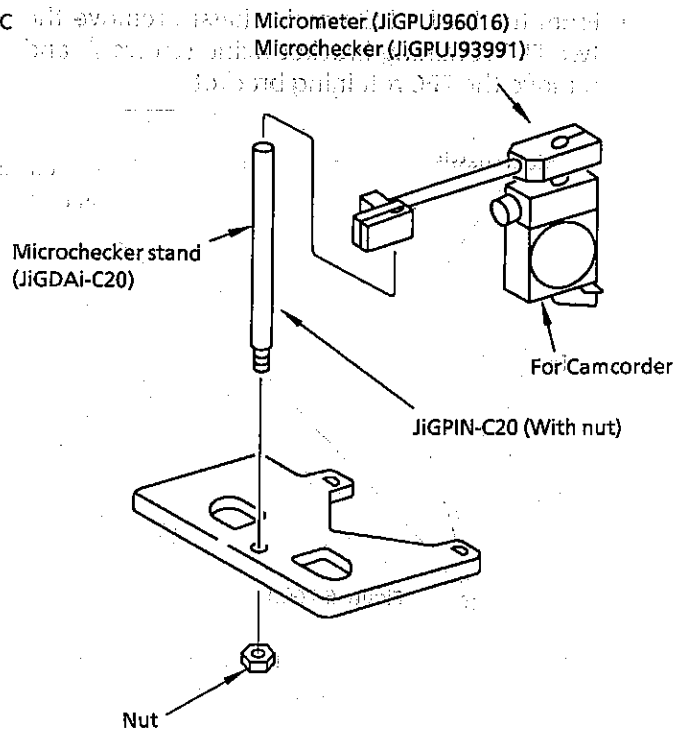

Figure 6-27(a).
1. Remove the two damper fixing screws ① and take off the damper ass'y (Fig. 6-27(b)).